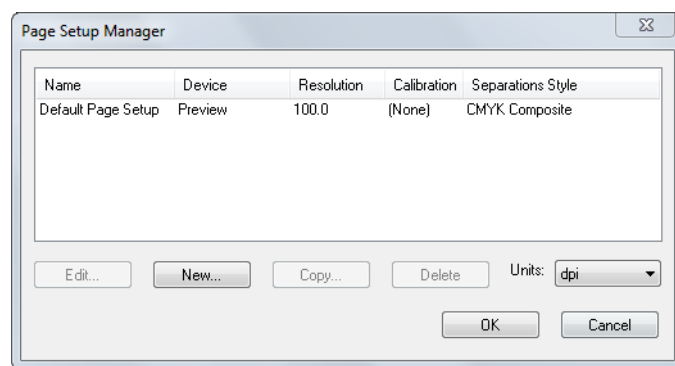

Figure 1 Page Setup Manager
1. Select **Harlequin MultiRIP > Page Setup Manager** to open the Page Setup Manager (Figure 1).